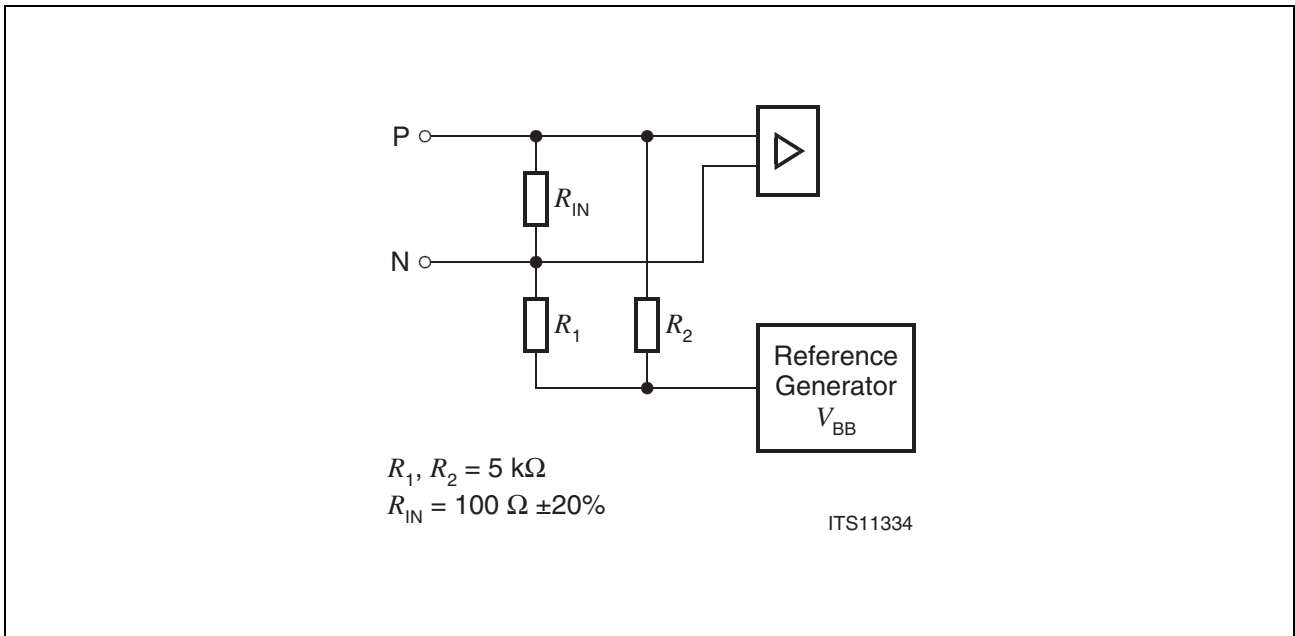

Figure 9 Data/Clock Input Stage
- 12) Data/clock inputs are internally connected to V_{BBD}/V_{BBC} by resistor R₁/R₂ with a differential termination by R_{IN}. See data input stage description (see Figure 9).